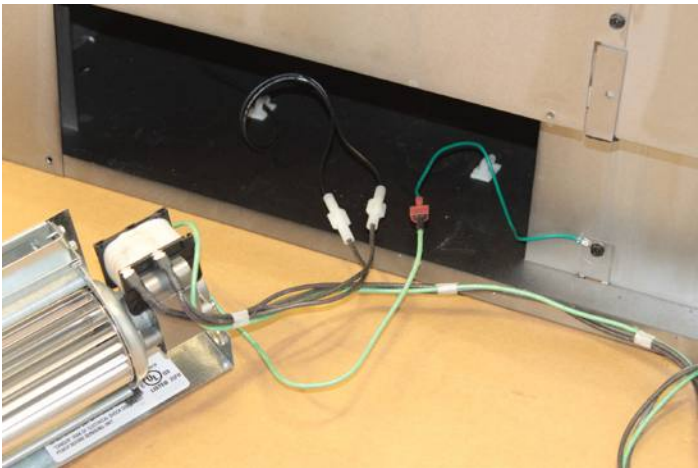

Figure 3
5. Locate the blower wire terminals inside the bottom of the fireplace and make the three connections as shown in **Figure 3.**